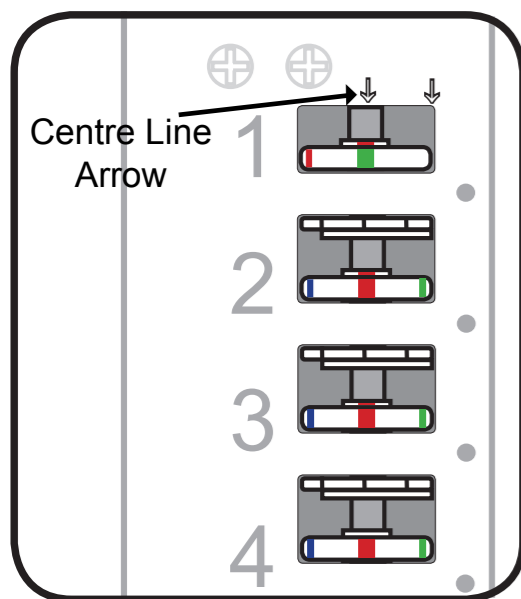

Fig.4
The coding chamber is non-sequential so the code can be entered in any order. If for instance the unit was coded to 11234 (as per fig.4 below), the unit can be opened by entering 11432, 43211, 12314 etc...
3. With the coding chamber reset you will see that the coding disks are set to what the keypad is currently coded to. If for instance the unit is coded to 11234; the number 1 disk will have the green marker of the coding disk lined up with the centre line arrow on the cover plate. The number 2, 3 and 4 will have the red marker of the coding disks lined up with the centre line arrow (as per fig.4). All the other coding disks will have the blue line in alignment with the centre line arrow.